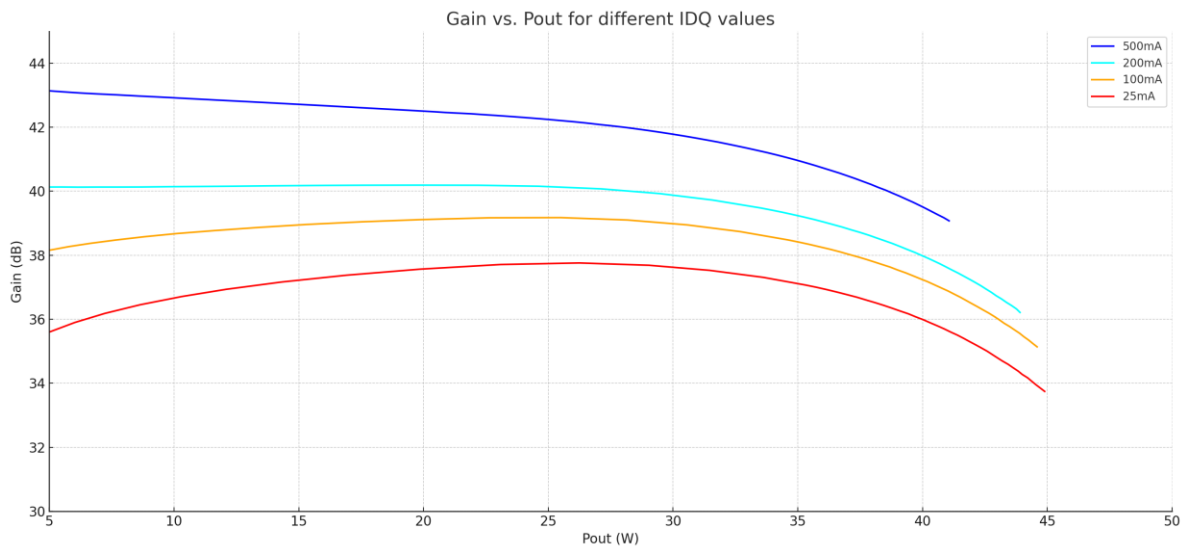

Figure 8 Gain vs Output Power at different Idq levels
- Figure 8 Gain vs Output Power at different Idq levels 7